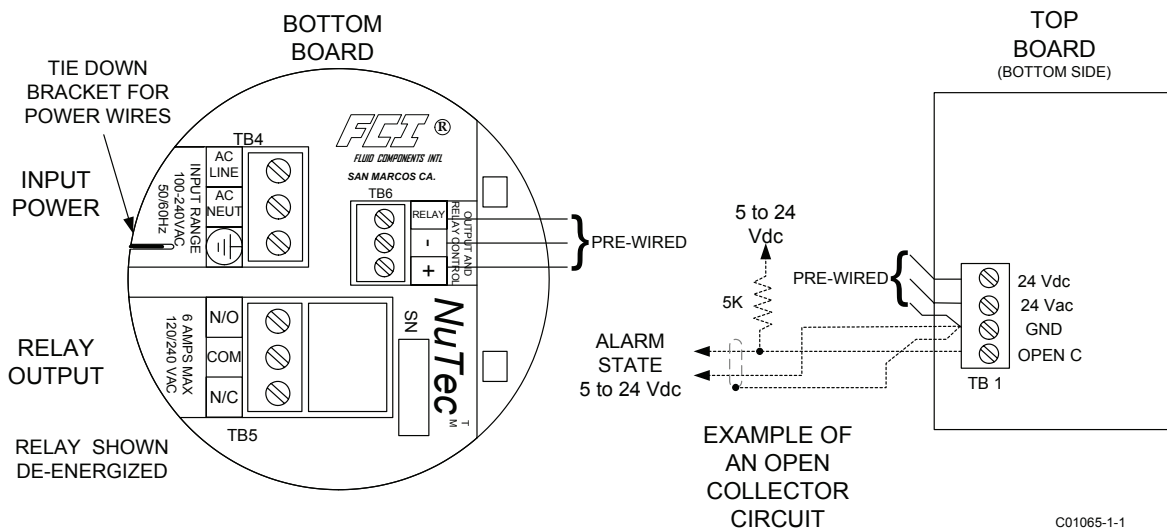

Figure 9 100 - 240 Vac Input Power
5. Attach the ac power leads to TB4 as indicated on the control circuit. Make sure that an earth ground wire is attached to the earth ground terminal. See figure 9.
7. After making the connections to TB4 and TB5 (TB1), secure all the wires to the tie down bracket with a cable tie wrap. See figure 9. This is required by safety agencies to act as a strain relief and to prevent fly off of a wire with high voltage potential.